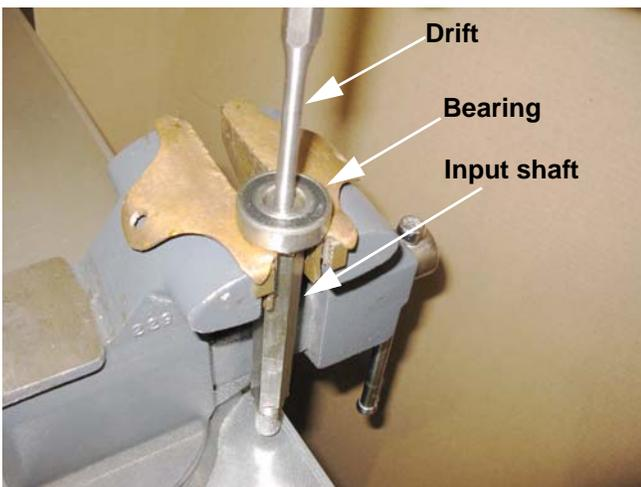

Figure 5.57
8. The input shaft can be driven out of the bearing that supports it. See Figure 5.57.